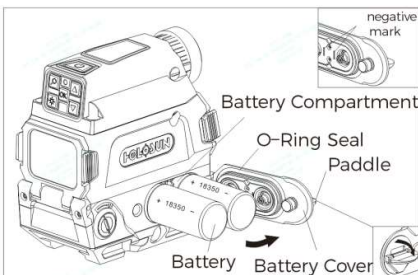

Figure 2
1. Battery Installation (Figure 2)